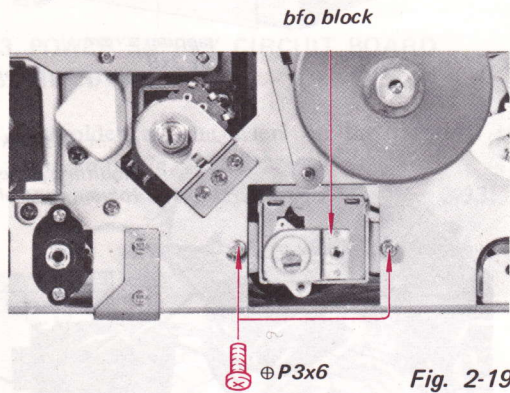

Fig. 2-19
1. Remove the two screws shown in Fig. 2-19 and push the bfo block backward.